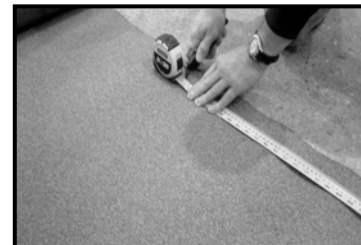

FIG 15
2. Measure the length of the roof (fig 14) and add 200 mm to that length. This length is used to cut all the strips from the rolls of felt. (fig 15)